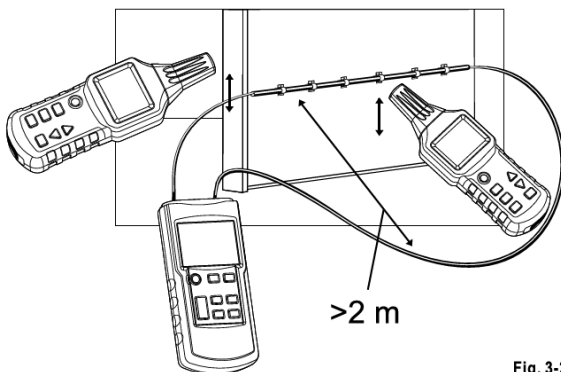

Fig. 3-2-4
- Connect the transmitter as shown in Fig. 3-2-4.